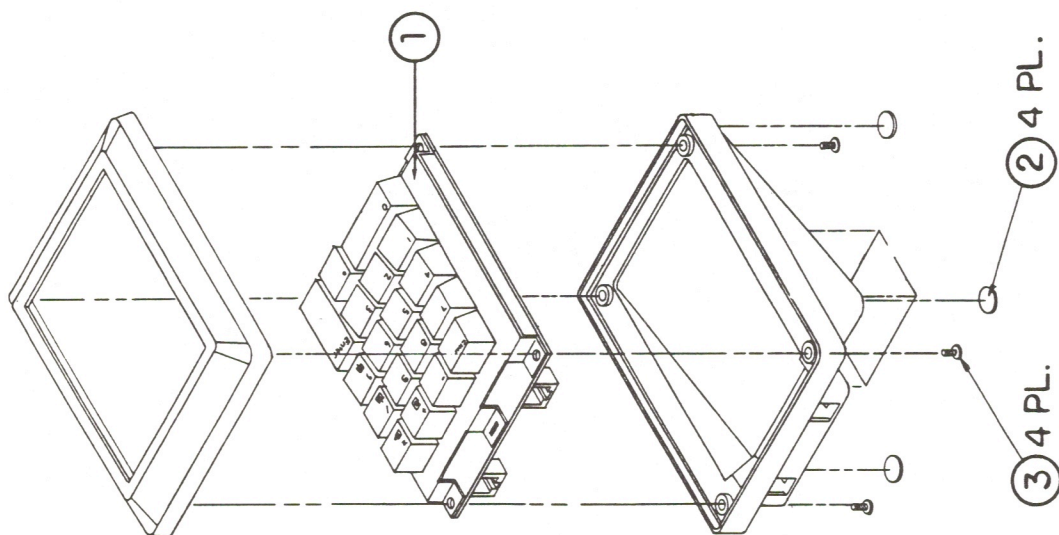

FIGURE 5
□ MACINTOSH – NUMERIC KEYPAD ASSEMBLY (Figure 5)